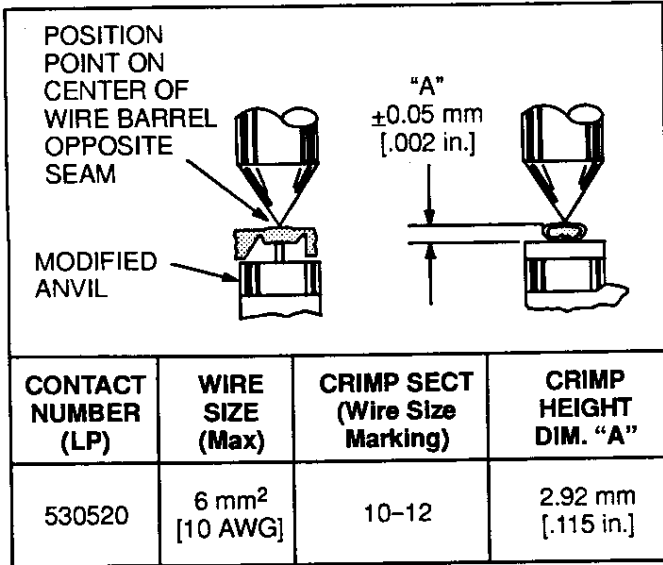

Fig. 5 200-002E
3. Using a crimp height comparator, measure the wire barrel height as shown in Figure 5.
This inspection incorporates the use of a micrometer with a modified anvil as shown in Figure 5. We recommend the modified micrometer (Crimp Height Comparator RS-1019-5LP) which can be purchased from:
1. Refer to the chart in Figure 5 and select a contact and a wire (maximum size) for the dies.